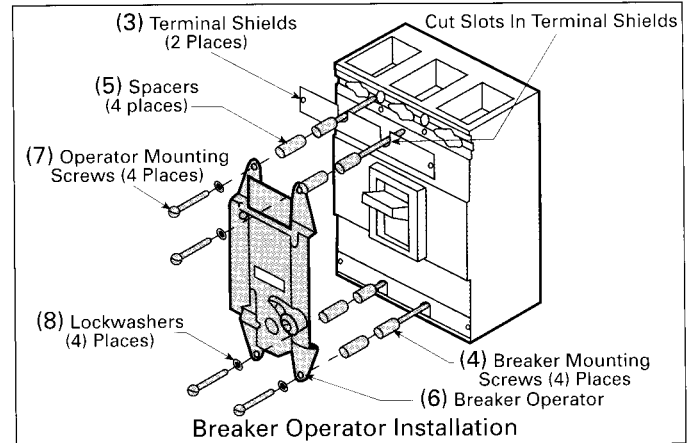

Figure 3
NOTE: It is recommended that the shaft support bracket (12) be installed if the enclosure depth exceeds 10". Attach as shown in Figure 3. Tighten screw to 45 in-lbs.
The motor operated mechanism is designed to open, close and reset a circuit breaker or switch by remote control. The customer must supply the circuit breaker or switch, normally ON and OFF momentary type push-buttons, external wiring, a control power source, and all control logic. Consult the wiring diagram (Figure 3, page 25) for a typical control connection.